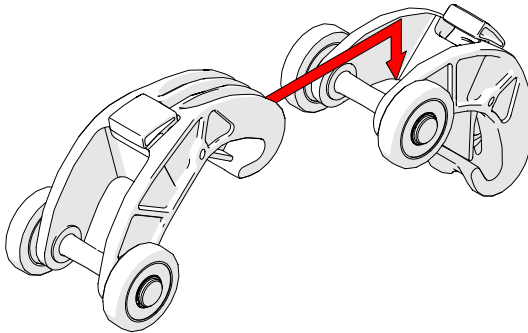

Fig. 25 - Lift the hook over the axle of the QuickLink
1. Lift the hook of the QuickLink over the axle of the QuickLink that is to be connected (Fig. 25).